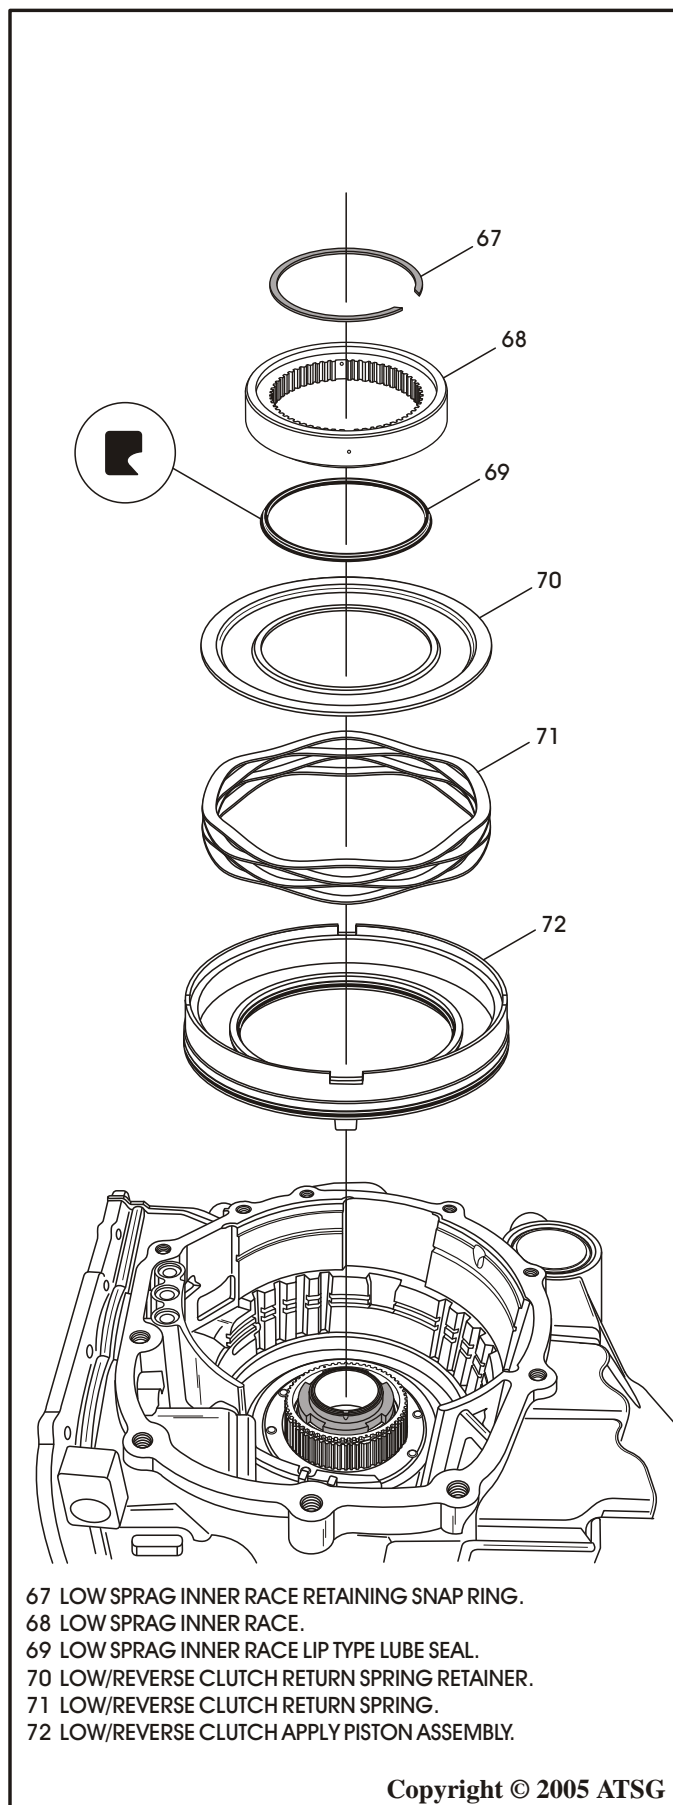

Figure 169
29. Install the low/reverse piston assembly into the case, as shown in Figure 169.
30. Install the low/reverse piston return spring into the case, as shown in Figure 169.
31. Install low/reverse piston return spring retainer as shown in Figure 169, on top of the return spring.
32. Install a new "Lip" type seal into the groove on back side of the sprag inner race, as shown in Figure 169, with the lip facing down.
33. Install the sprag inner race, with the seal side facing down, as shown in Figure 169.